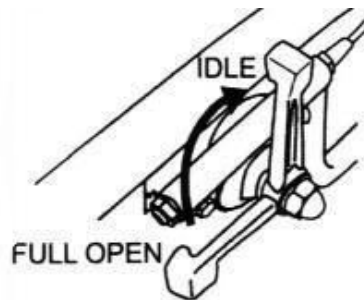

Fig 10
1. Move throttle lever quickly from the **FULL OPEN** to **IDLE** position (Fig 10) and run the engine for three minutes at low speed. After the engine cools, turn the engine start/stop switch to the “**STOP**” position (Figure 6) until engine comes to a complete stop.